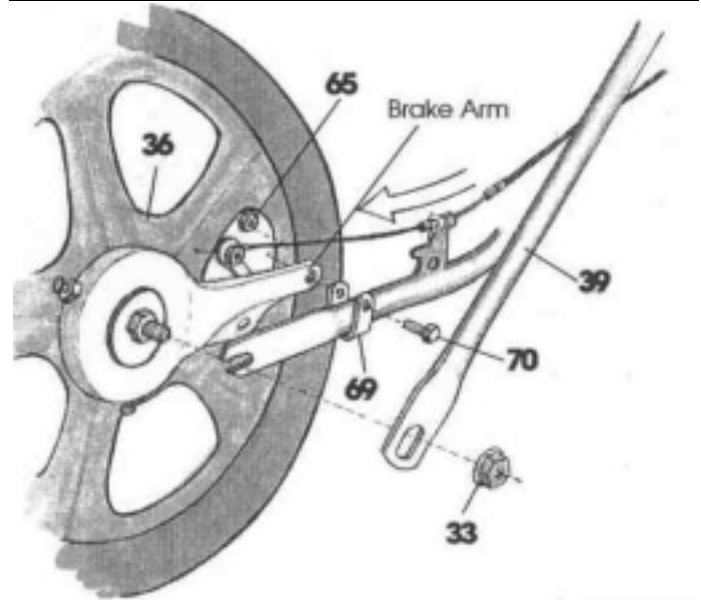

Fig. 3
Place the front wheel (36) into the front fork with the band brake on the left side and on top of fork tube (see figure 3). Position the front struts (39) over the axle, center wheel in the fork assembly, and secure axle nuts (33).
Attach the brake strap (69) to the frame by bending it into a "U" shape and sliding it over the left side of fork, from the bottom up (see figure 3). Align the brake strap around the brake arm and insert screw (70) from the outside through the strap and arm. If necessary, rebend the brake strap and use an awl to align all three holes. Secure with nut (65).